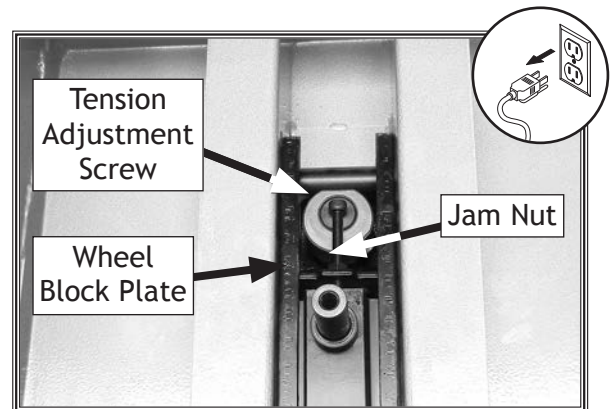

Figure 94. Location of tension adjustment screw, jam nut, and wheel block plate.
4. Loosen jam nut on tension adjustment screw, then loosen screw 7-10 turns (see **Figure 94**).
6. Tighten tension adjustment screw (see **Figure 94**) until it contacts wheel block plate, then back it off 1-2 turns.